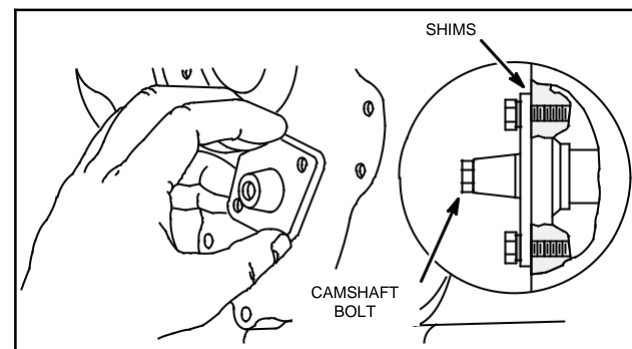

Fig. 872 - REMOVING CAM GEAR BEARING
4. Remove bolts from cam gear bearing, Fig. 872 and while holding cam gear, remove cam gear bearing and remove cam gear.
5. Remove camshaft, Fig. 872.